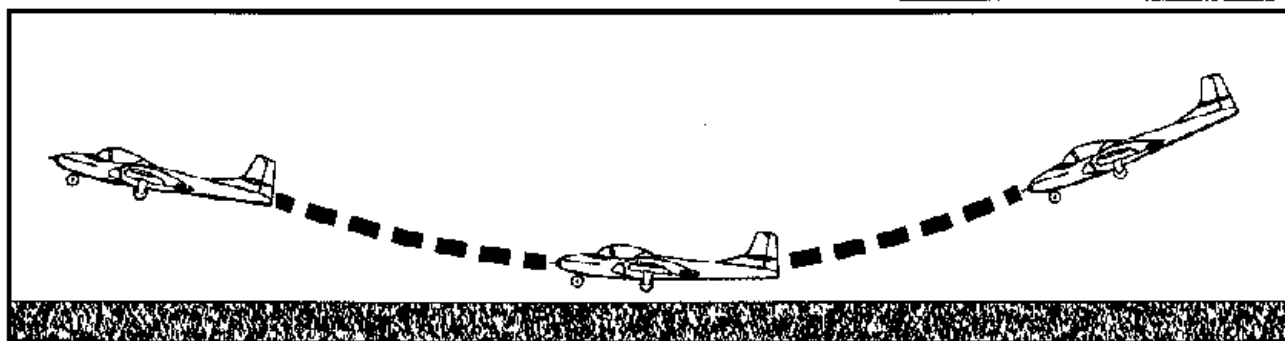

Figure 6.5. Ballooning Results From a Too-Rapid Roundout.
6.15.8. Ballooning. There are several factors that cause an aircraft to balloon. Rounding out too rapidly or raising the nose to the landing attitude before lift has decreased sufficiently will cause you to balloon (figure 6.5). The altitude gained will depend on the airspeed or the rate at which the pitch attitude is increased.